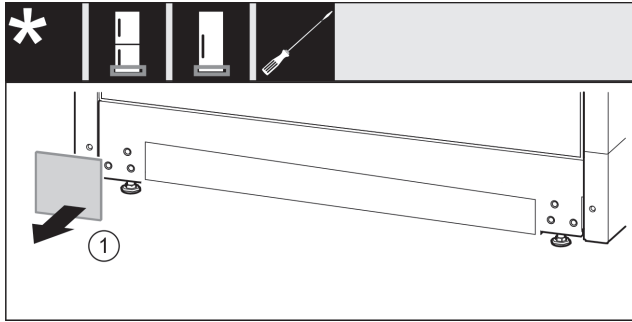

Fig. 35
- Remove the cover. *Fig. 35 (1)*